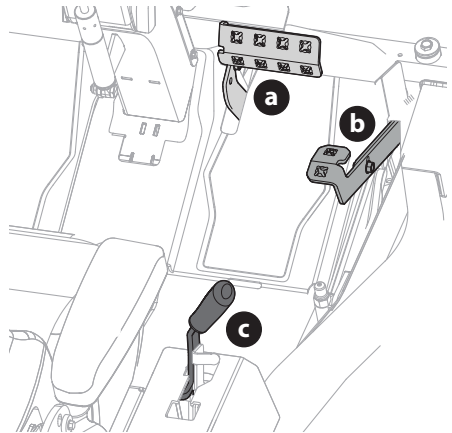

Figure 27
3. To travel FORWARD, slowly press the forward drive pedal (a) forward until the desired speed is achieved (Figure 27).
4. To stop or slow down the tractor, take your foot off of the forward (a) or reverse drive (b) pedal. To lock the parking brake, place drive control pedals in neutral and pull the park brake lever (c) back until it locks into the "ON" position (Figure 27).
5. To travel in reverse, check that the area behind is clear, then slowly push down on the reverse drive pedal (b) with the ball of your foot (NOT your heel) until the desired speed is achieved (Figure 27).